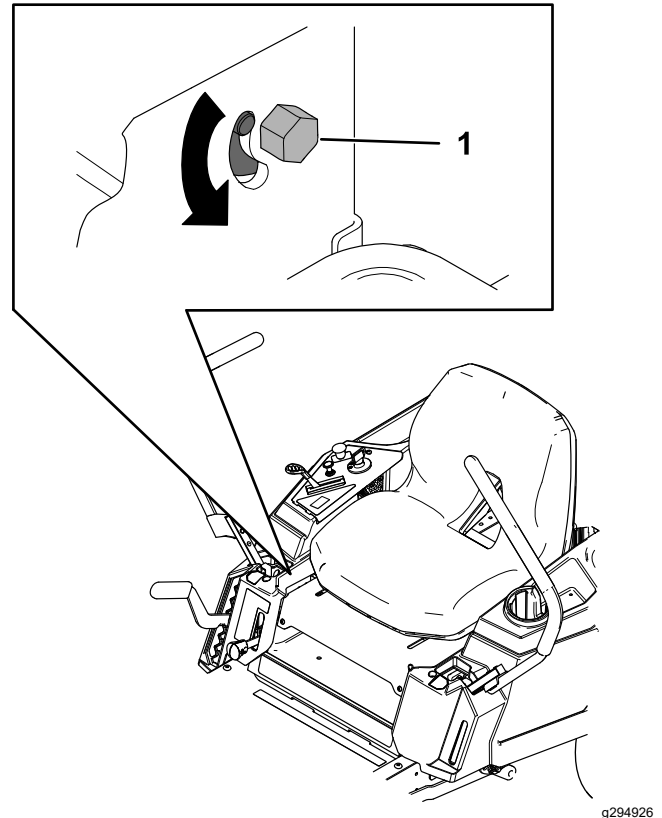

**Figure 53**
3. Locate the tracking-adjustment bolt near the motion-control lever on the particular side that needs adjusting (Figure 53).